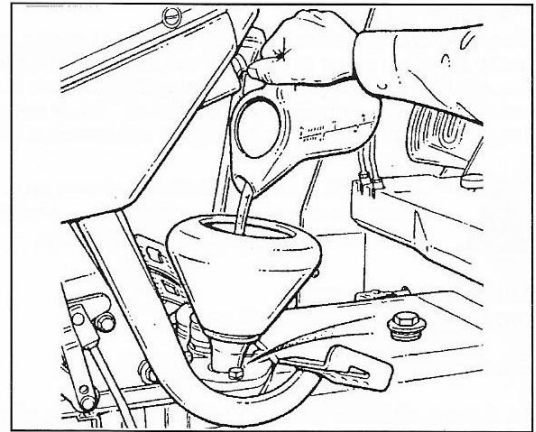
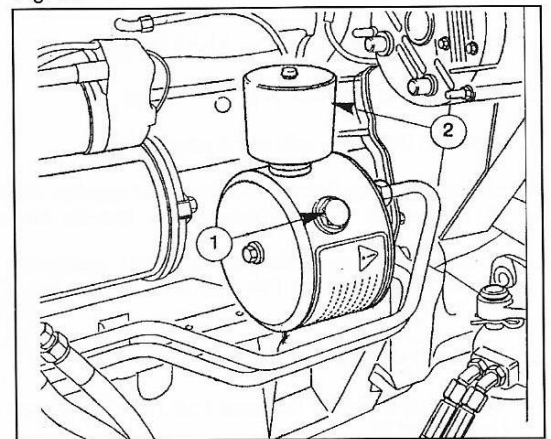

Fig. 96
Fig. 100
4. If necessary, remove the filler plug and add oil to the correct level (see Fig. 96).
2. Remove the filler/level plug located on the pump housing (1, Fig. 96 or 1, Fig. 100).
**NOTE:** Later models have an expansion chamber fitted to the power steering pump (2, Fig. 100). This part requires no maintenance and no attempt must be made to remove it.